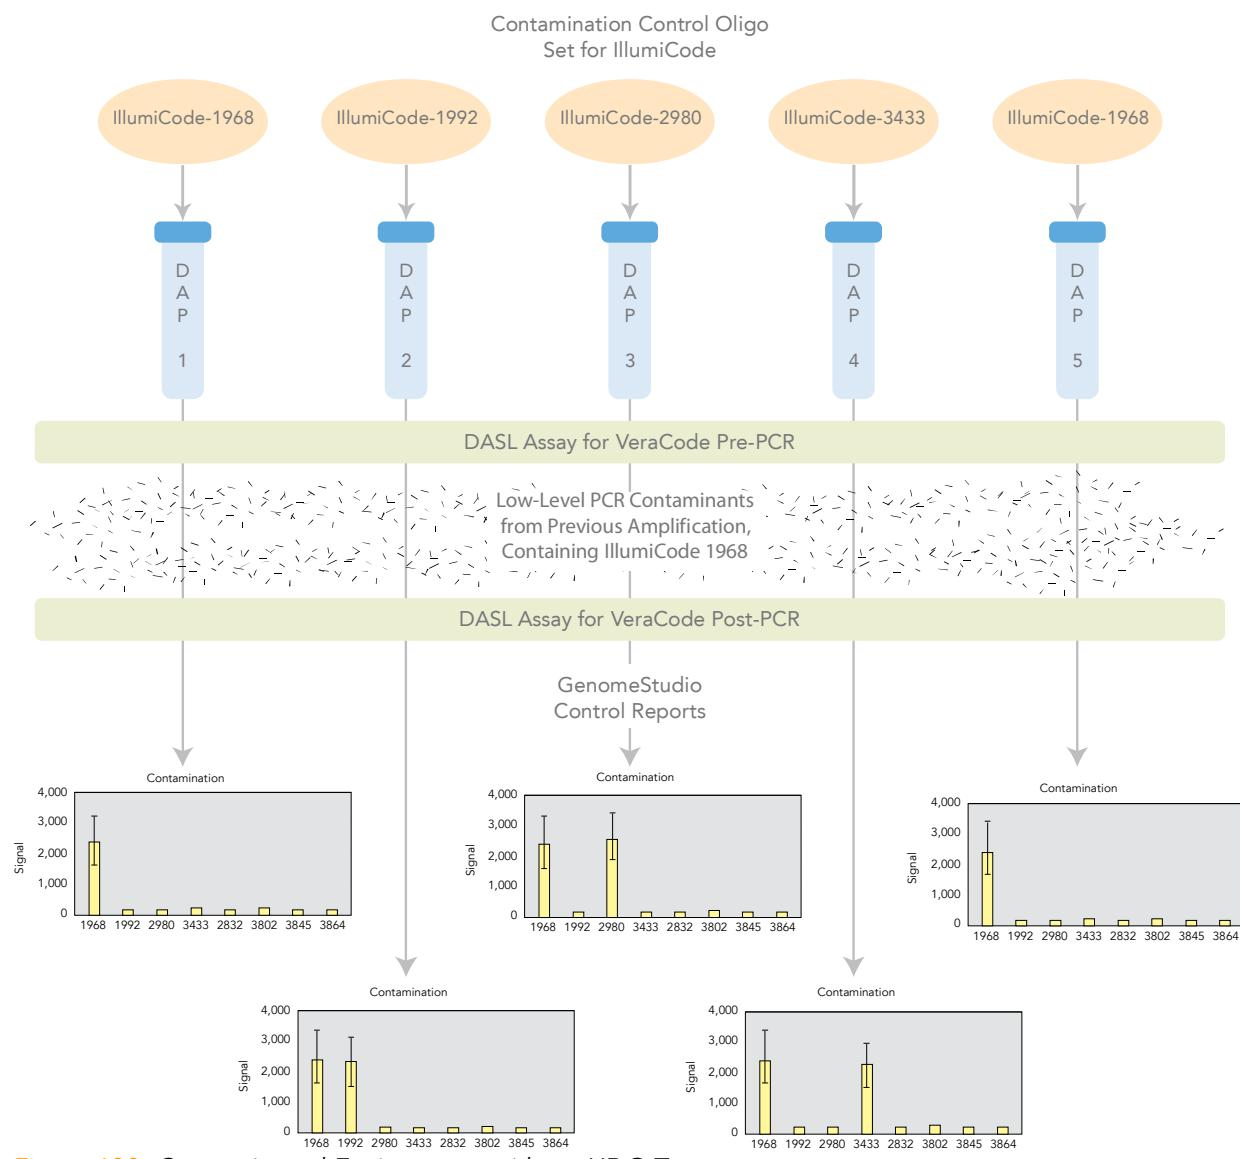

Figure 130 Contaminated Environment without UDG Treatment
- ▶ Figure 130 represents a contaminated environment *without* UDG treatment